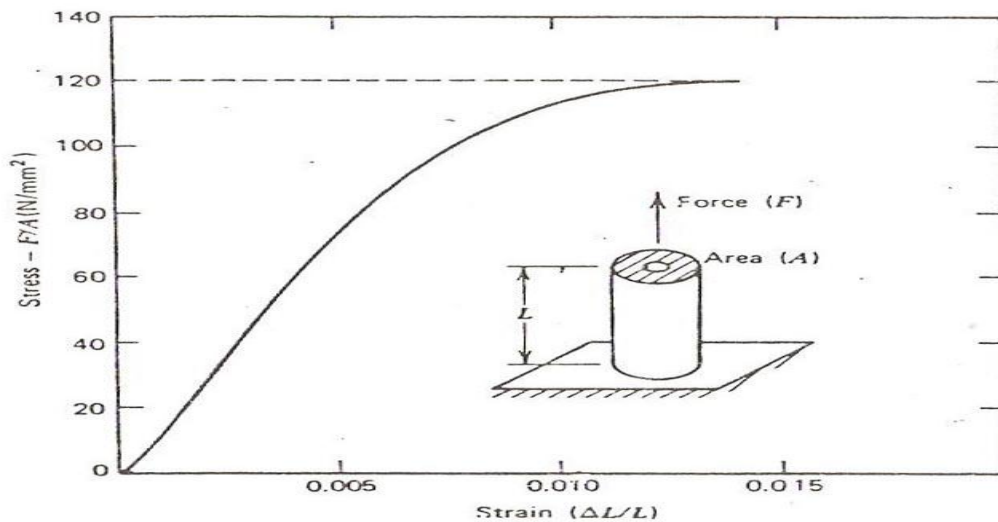

Figure 2. A piece of bone is placed under increasing tension
2) **Length:** All materials change in length when placed under tension or compression when a sample of fresh bone is placed in a special instrument for measuring the elongation under tension, as show in figure2, the strain ($\Delta L / L$) increases linearly at first, indicating that it is proportional to the stress (F/A)__ Hooke's law. As the force increases the length increases more rapidly ,and the bone breaks at a stress of about 120 N/mm^2 ($\sim 17,000 \text{ lb/in.}^2$). The ratio of stress to strain in the initial linear portion is young's modulus Y . that is.